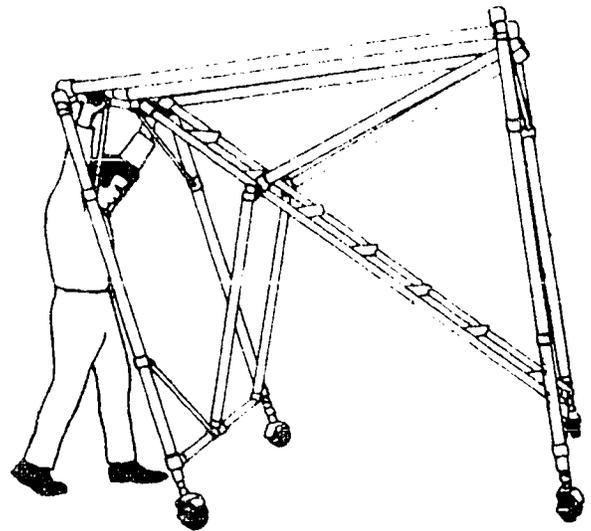

FIGURE 16. Lift the opposite end
b. Lift the opposite end until the end frame is vertical and the folding V-braces have opened approaching the locking position, as shown in Figure 16.